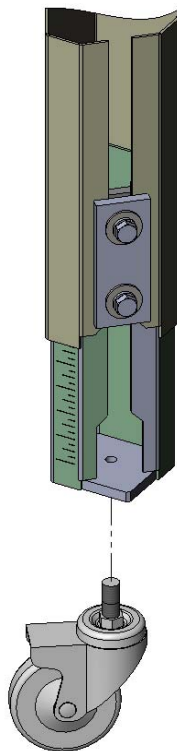

Figure-7
- D. Do Not Adjust The Conveyor Height By Adjusting The Caster. Proper Conveyor Height Must Be Achieved By Adjusting The Leg Extension Of Each Leg. **(See Figure-7)**